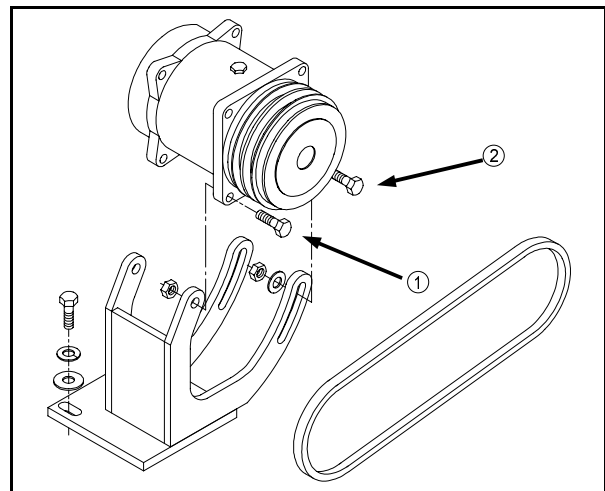

FIG 8.56
To tighten air conditioner compressor belt, loosen the two pivot bolts (fig. 8.56, item 1) and the two slide bolts (fig. 8.56, item 2). Using a suitable prying tool, adjust tension on belt to desired tautness. While maintaining tension, re-tighten all four bolts. Inspect belt ever 250 hours.